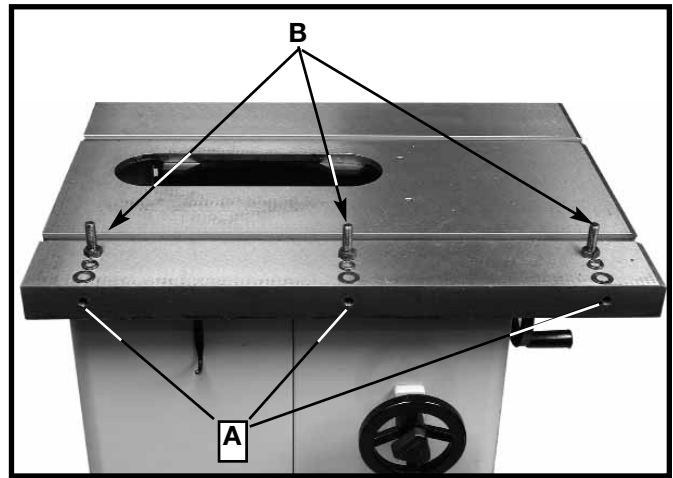

Fig. 9
Assemble left extension wing (A) Fig. 10A to the saw table. Align the three holes in the extension wing with the three holes (A) Fig. 9 in the side of the saw table. Place a 7/16" lockwasher, then a 7/16" flat washer on a 7/16-20x1-1/4" hex head screw (all shown at (B) Fig. 9). Insert the screw through the hole in the extension wing and thread the screw into the tapped hole in the side of the table. Repeat this process for the two remaining holes in the extension wing and saw table.